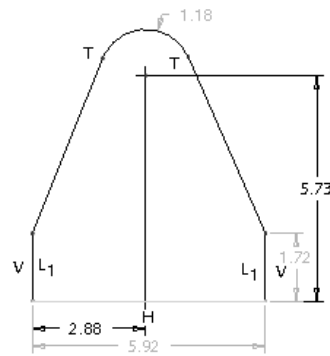

Figure 2-25 Sketch with all entities, weak dimensions, and weak constraints
5. Press the middle mouse button to place the dimension below the sketch, refer to Figure 2-25.